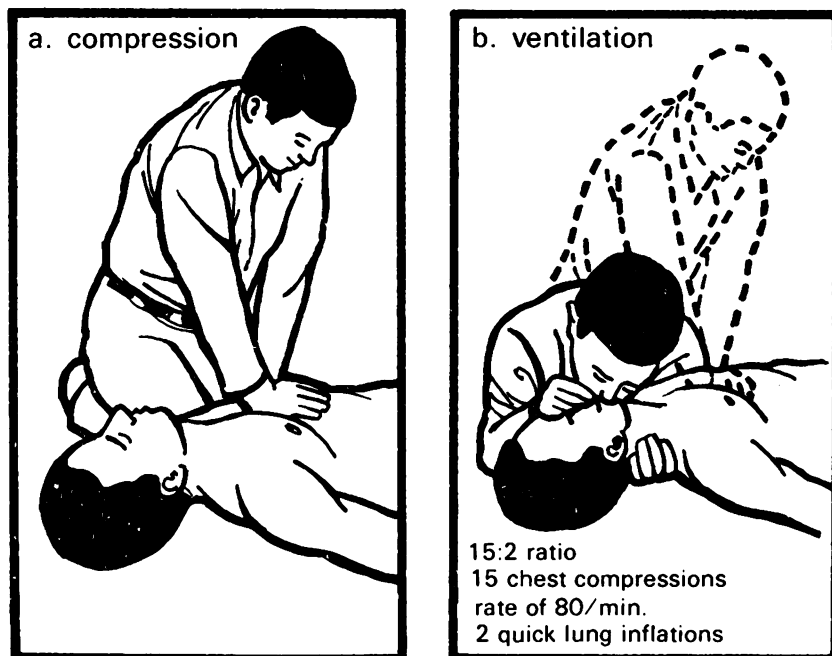

Figure 11.
(5) The chest will be compressed 15 times at a count of 80 compressions per minute. Then shift position slightly and apply two quick, but full breaths (tilt head, open airway). Continue this cycle—15 compressions to two breaths—until relieved (figure 11).